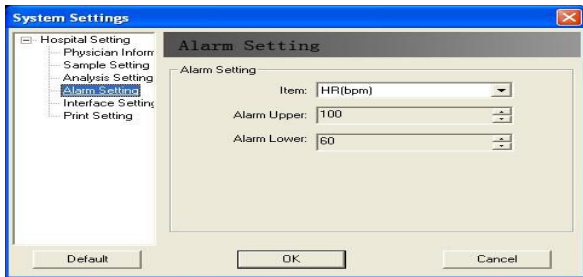

Fig.6-25
- ◆ The interface of "Alarm Setting" is as Fig.6-25. The alarm items include heart rate, pulse rate and SpO₂.